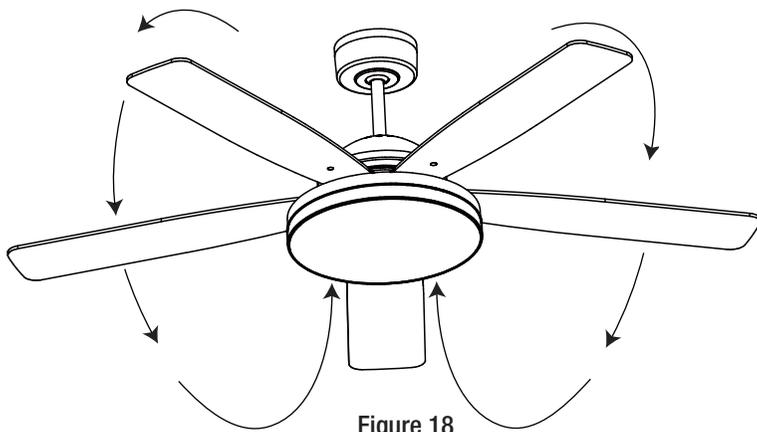

Figure 18
* Cool weather - (Reverse) An upward air flow moves warm air off the ceiling area as shown in Figure 18. This allows you to set your heating unit on a lower setting without affecting your comfort.